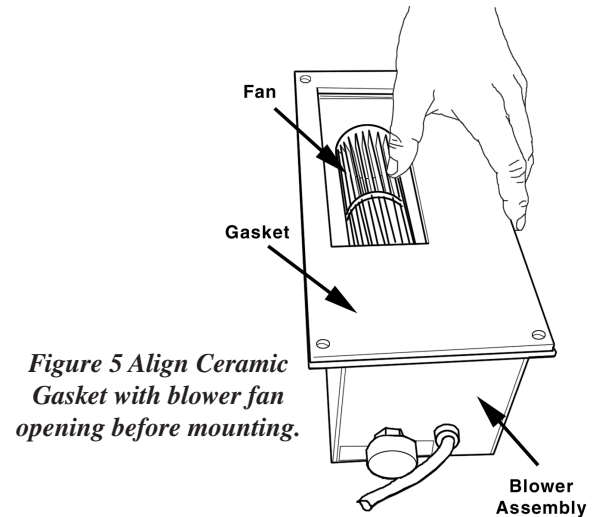

Figure 5 Align Ceramic Gasket with blower fan opening before mounting.
- Attach blower assembly (#3) to back of rear deflector. NOTE: Make sure ceramic gasket (#26) is positioned between rear deflector and blower assembly and is properly aligned so it doesn't block the fan, Figure 5.